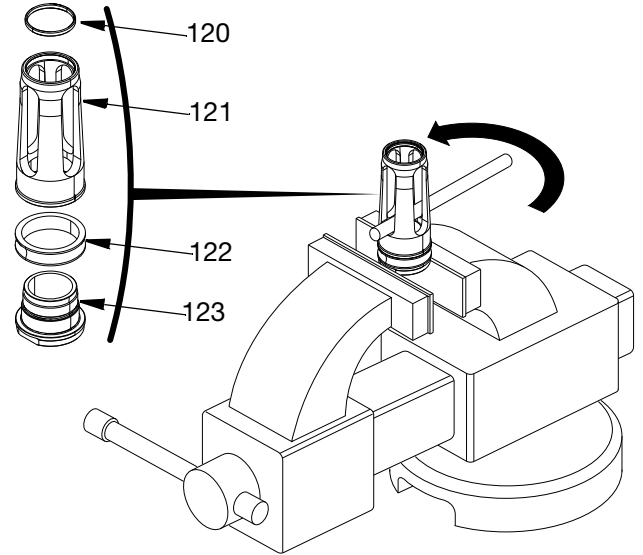

FIG. 13
- Place the flats of the poppet outlet check valve (123) and the piston guide (121) in a bench vice. Slide a 0.5 In. (12.7 mm) brass rod through the openings of the piston guide and unscrew it from the poppet outlet check valve. Remove the piston seal (122) and the piston guide bearing (120).
NOTE: Piston guide bearing (120) is press fit into the piston guide (121), and may require cutting to ease removal. See FIG. 13.